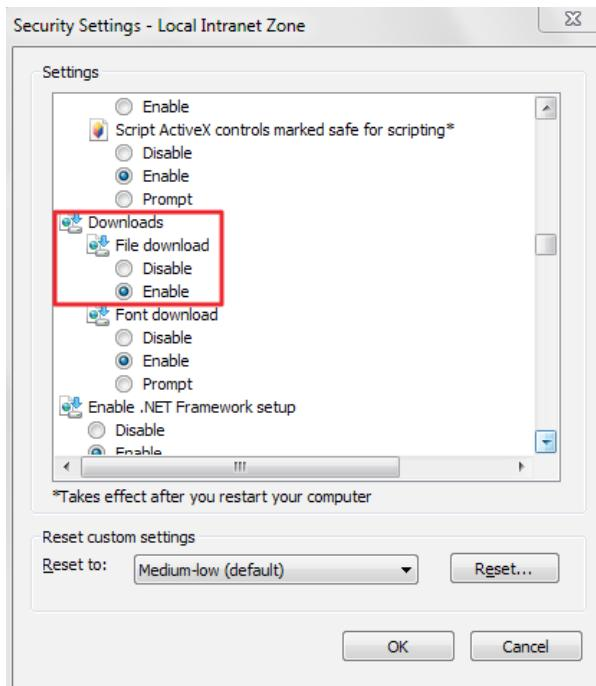

Figure 4-31 Enable option in File Download
- » The Security Settings dialog box for Local Intranet is displayed, select Enable option in the File download sub menu as shown in Figure 4-31.